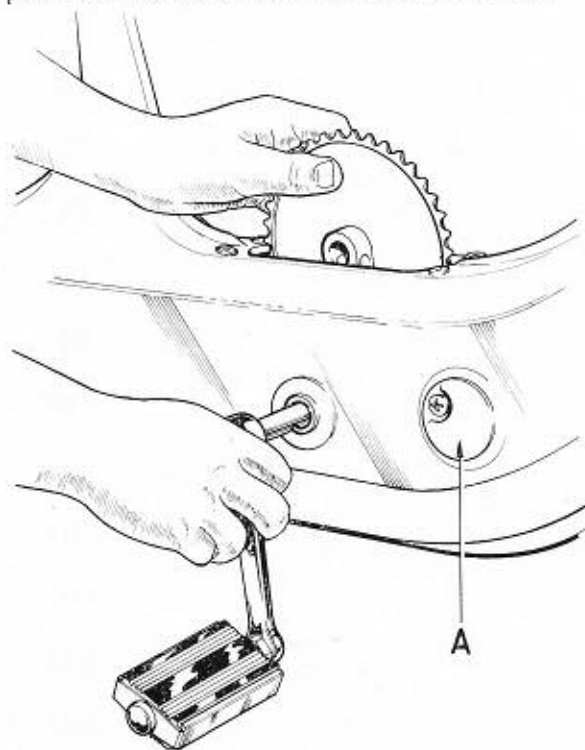

FIG. D1. Removing chainwheel.
When the torsion bar blocks are reassembled, it is necessary to ensure that when completed, both adjuster screws face outwards. If assembled incorrectly it will not be possible to carry out adjustment of the torsion bars, i.e., assemble blocks so that screw end of adjuster is visible when the cover plates (A) Fig. D1 are removed.